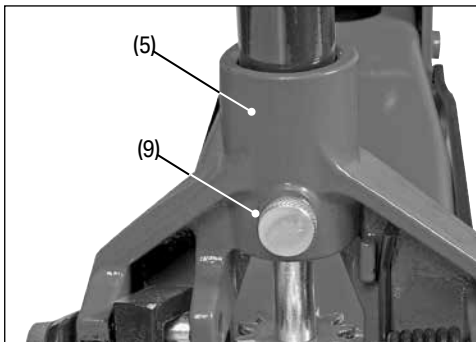

Fig. 2
- b. Insert the complete handle shaft into the handle socket (5) and secure it with the locking bolt (9) (fig.2).